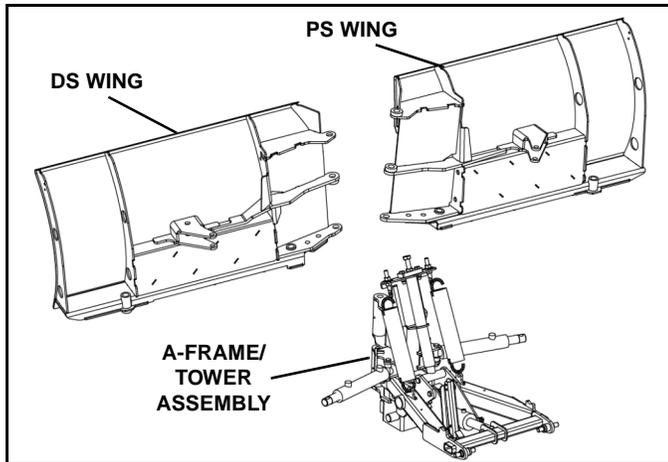

Figure 1-6
4. Position the drivers side (DS) and passenger side (PS) wings in front of the A-frame/tower assembly. (See Figure 1-6)